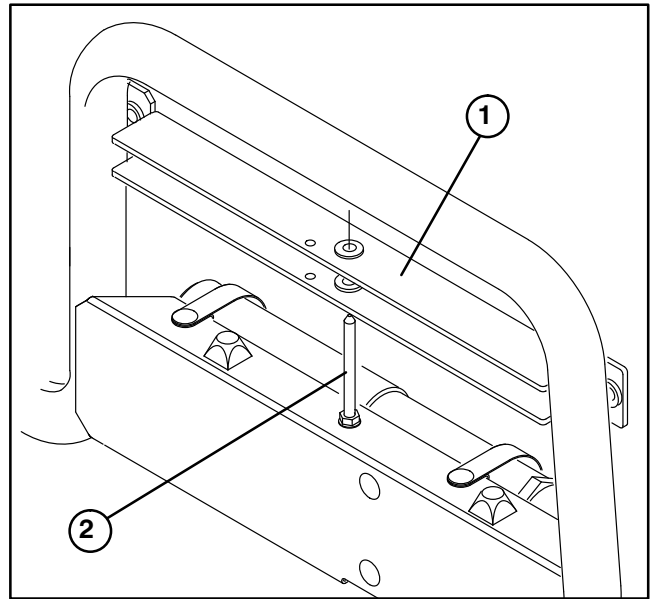

Figure 26
USING BED SAFETY SUPPORT (Fig. 26 & 27)
2. Remove bed support from storage stud on top of back rest support channel on Workman (Fig. 26).